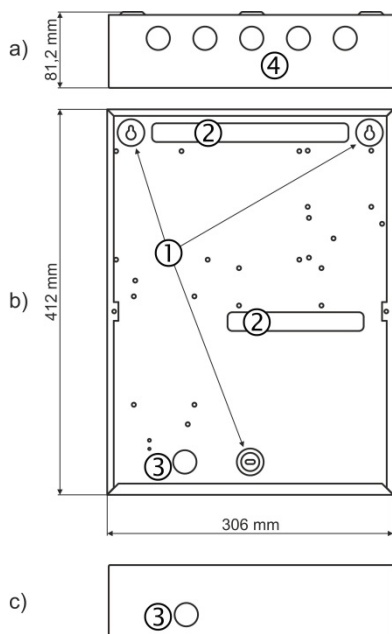

Figure 3 – Elements of the metal bottom:
- Choose inlets for the main power supply cable, loops, sounders, control devices, etc. Remove the metal cap element just from those holes for cable running (Figure 3).